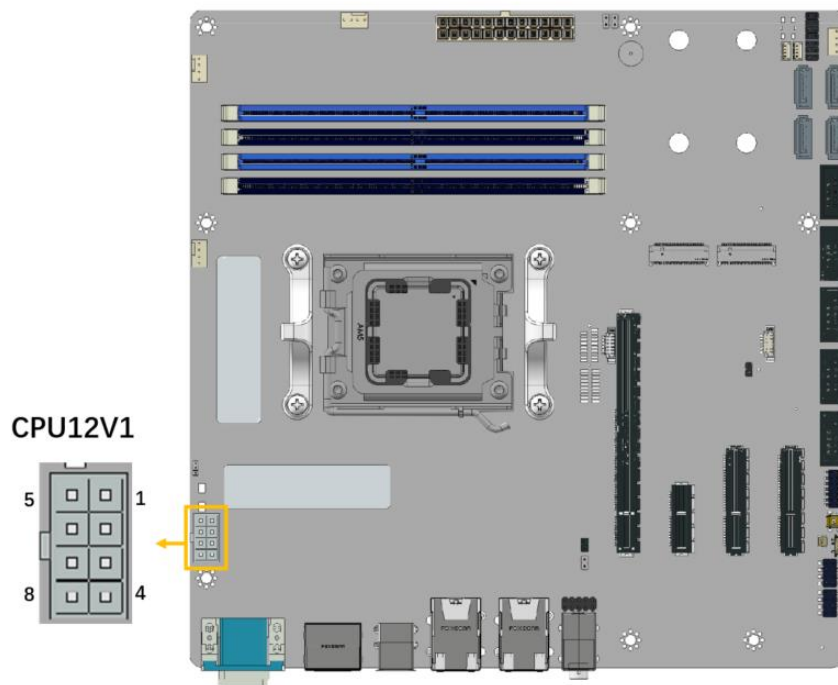

Figure 4-10: CPU 12V Power Connector Location
- CN Location:** See Figure 4-10